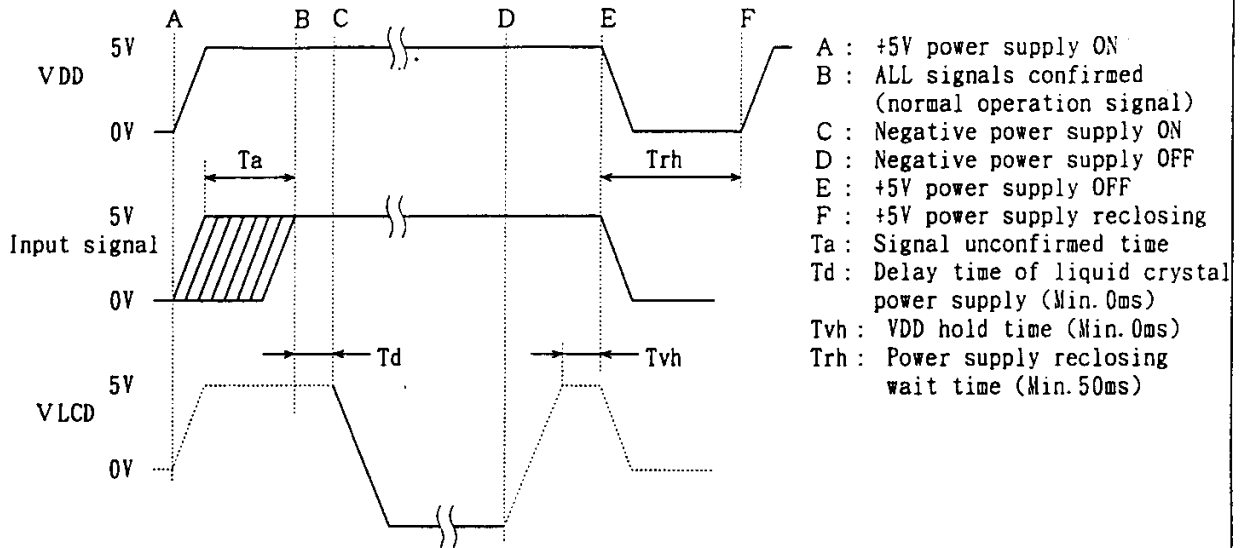
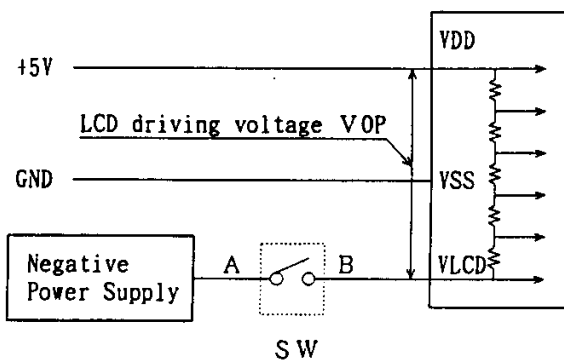
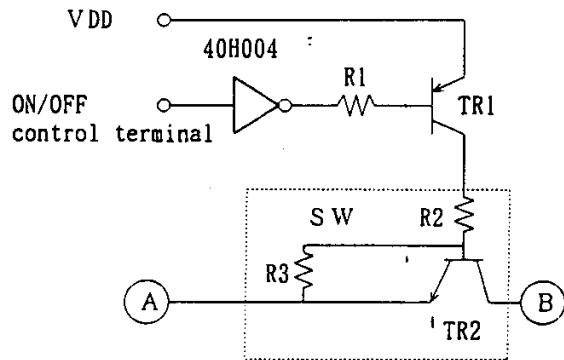

Fig.1 Power supply ON/OFFsequence
Fig.2 Example of power supply connection
Fig.3 Example of SW section circuit
- When turning the power supply ON/OFF, strictly follow the sequence shown in Fig.1 so that latch-up and DC driving of the LCD Module can be prevented.
- Fig.1 shows the voltage levels at the module terminal section when the module is connected to a power supply and signal lines.
- Regarding VLCD in Fig.1, the dashed line shows the OFF status of SW in Fig.2, while the solid line indicates the ON status.
- Prepare the negative power supply shown in Fig.2 with a capacity that is at least sufficient to handle the current of the liquid crystal power supply in DC characteristics.
- Fig.3 provides an example of the circuit for SW section in Fig.2.